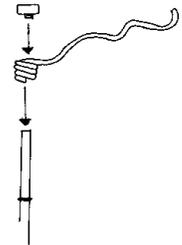

Figure 3
6. **(figure 3)** Remove the brass finial from the top of the stem. Roll the O-ring down along the stem to where you want the arm to rest. Slide the arm down the pole to the O-ring. You may adjust the height of the arm up or down by moving the O-ring. Finally, replace the brass finial on top of the stem.